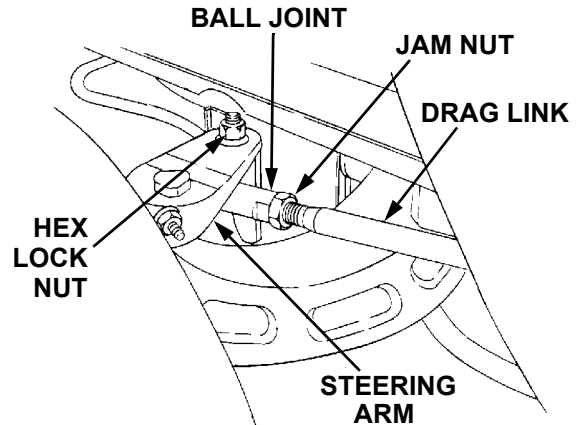

Figure 15
4. Loosen the jam nuts from the ball joints (See Figure 15).
5. Disconnect the front ball joints from the steering arms by removing the hex lock nuts (Refer to Figure 15). Manually move each wheel to achieve the required toe-in *and* equal D measurements.